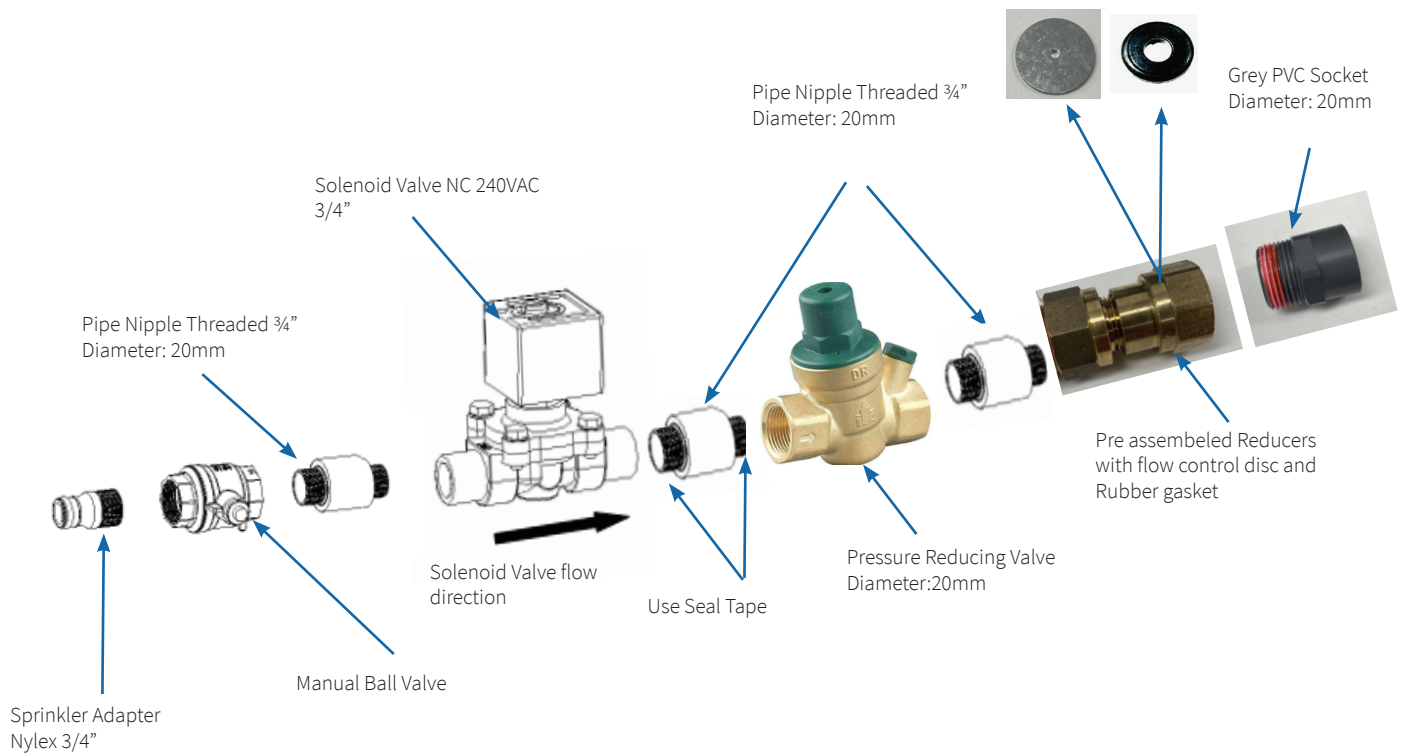

Fig. 3.18A Sequential installation of parts
- Step 8: Connect pre assemble Female-Female Reducer to your Grey PVC socket. Make sure the Flow control disc and rubber gaskets are fitted tightly and at correct location. Refer Fig 3.18A. for correct installation.